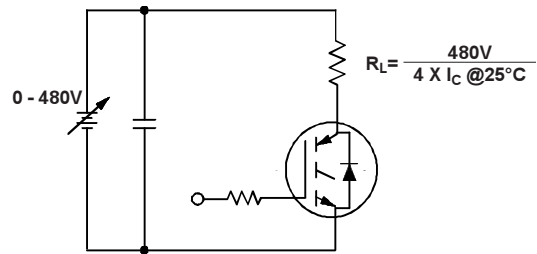

Figure 20.
- ① Repetitive rating: $V_{GE}=20V$; pulse width limited by maximum junction temperature (figure 20)